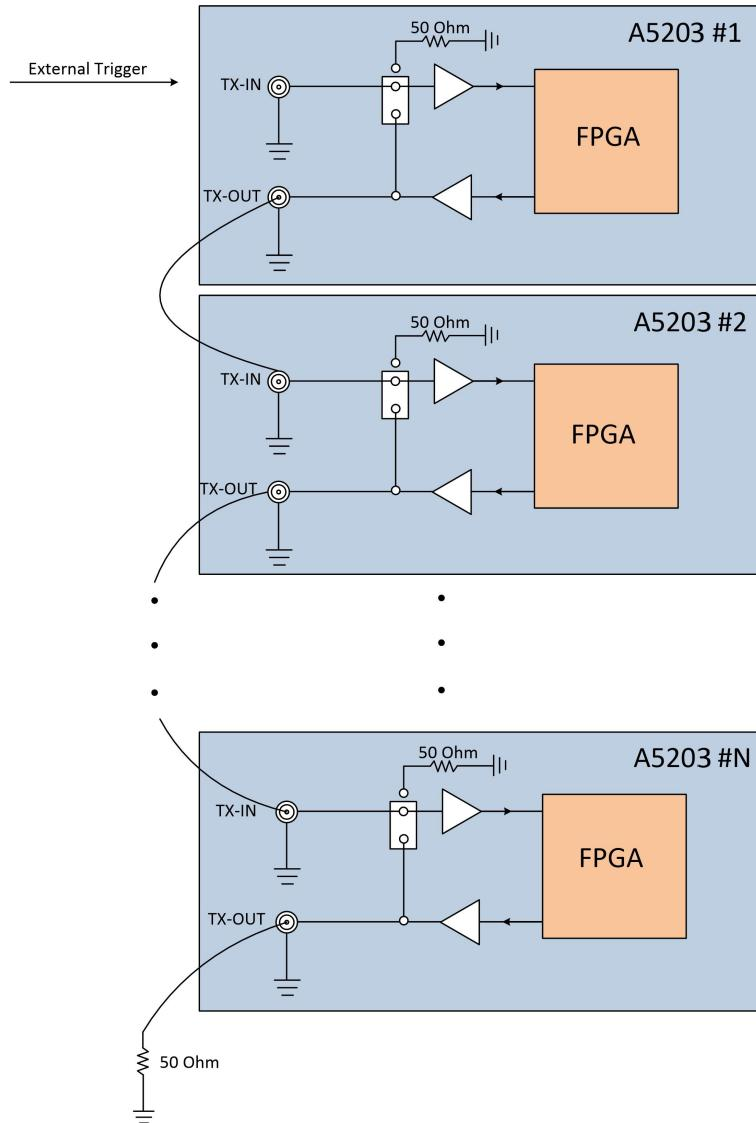

Fig. 9.10: Schematic diagram of a daisy chained trigger distribution.
This modality is particularly useful in case the user may want to propagate a common external trigger to all boards in the FERS-5200 system via the T1-IN/T1-OUT (or T0-IN/T0-OUT) connectors. However, by using a default configuration for the TX-IN jumpers, several delays would be introduced to the trigger signal when connecting in daisy chain TX-IN and TX-OUT connectors of all boards (due to FPGA processing of the signal). For this reason, a bridged connection for all TX-IN/TX-OUT connectors of all boards has to be created moving the jumpers as explained in Sec. 9.4.3. In **Fig. 9.10**, a schematic overview of a system composed of N A5203 units with a daisy-chained connection of the TX-IN/TX-OUT connectors is presented.
- Create a daisy chain as in **Fig. 9.10** with an external trigger transmitted to the TX-IN connector of the first board.